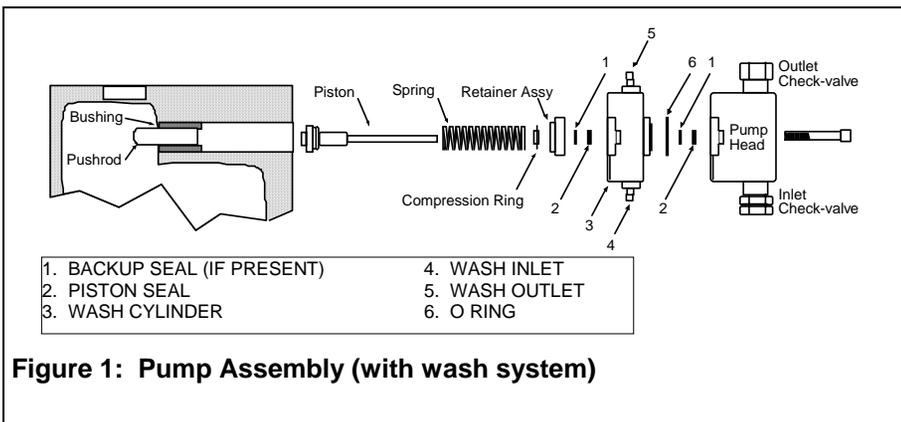

Figure 1: Pump Assembly (with wash system)
1. Remove the liquid end assembly as follows: On pumps with variable piston stroke length designs, set the pump to the maximum stroke length. Unscrew the two socket head bolts while holding the liquid end against the pump housing. Pull the liquid end straight out from the pump housing, in line with the axis of the piston. If you cock or tilt the liquid end, you may break the piston. See Figure 1.